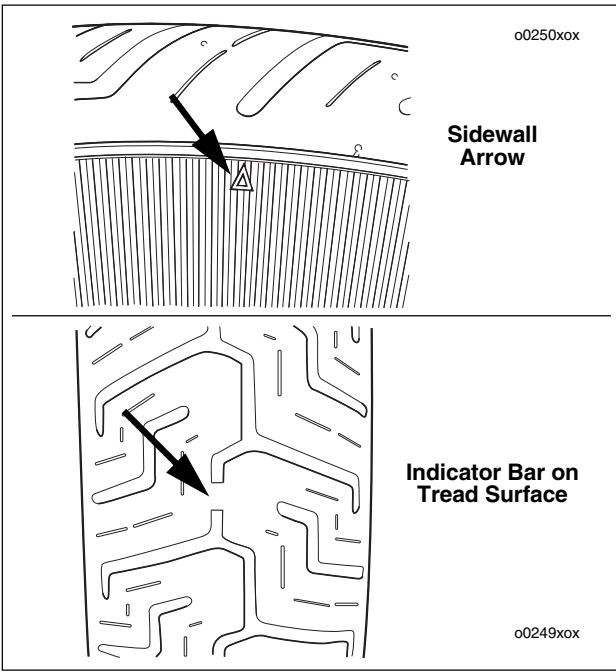

Figure 1-11. Tread Wear Indicator Bars
- a. Locate the arrows on the tire sidewalls. The arrows point to location of the tread wear indicator bars. See upper frame of Figure 1-11.
- b. Immediately replace tires if any tread wear indicator bar is on the tire tread surface, indicating that 1/32 inch (0.8 mm) or less of tire tread pattern remains. See lower frame of Figure 1-11.